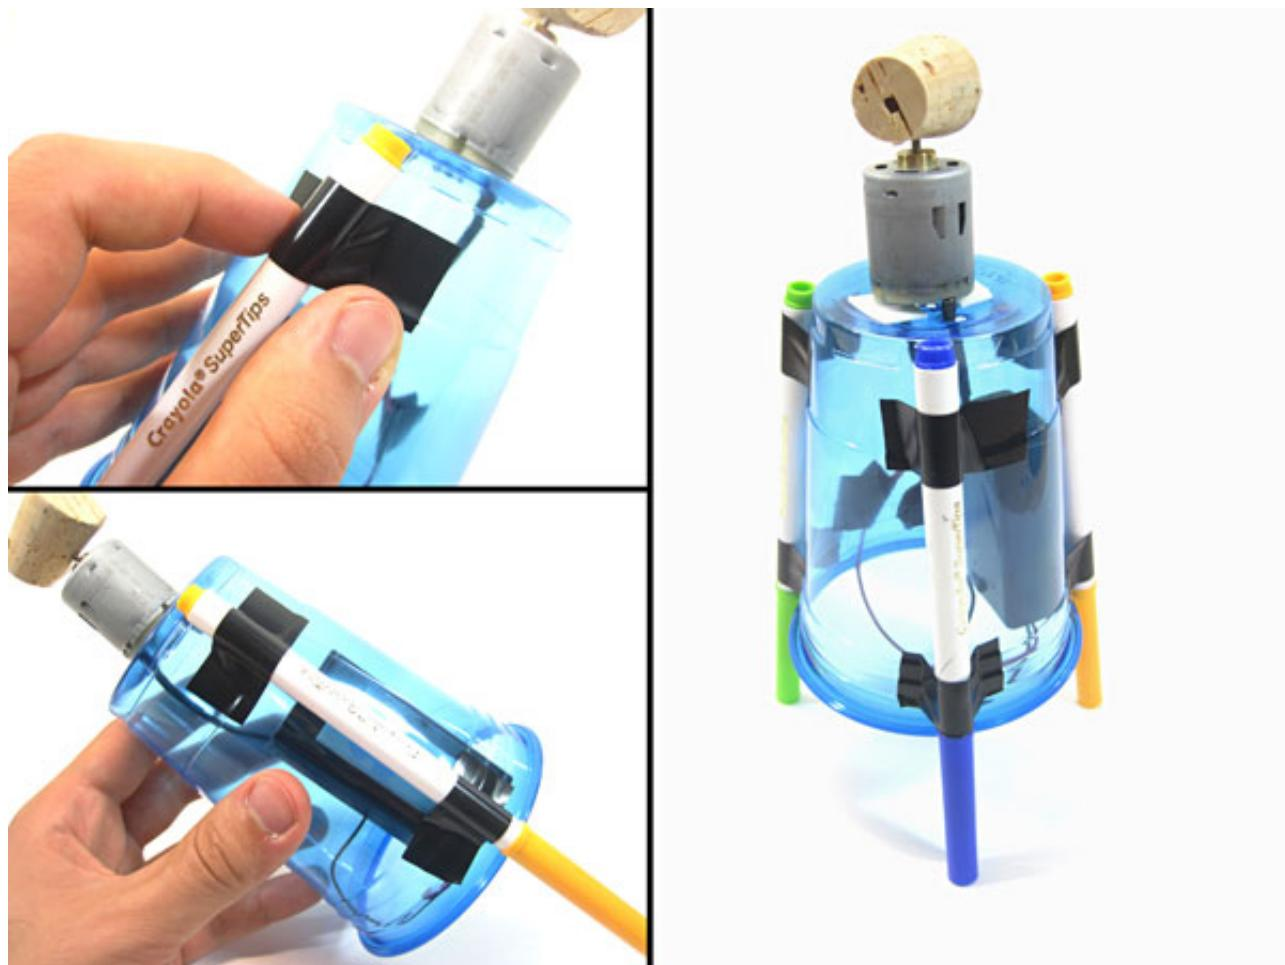

Figure 10. Use electrical tape to attach three markers to the Art Bot.
10. Attach markers to your robot as "legs," as shown in Figure 10, below.